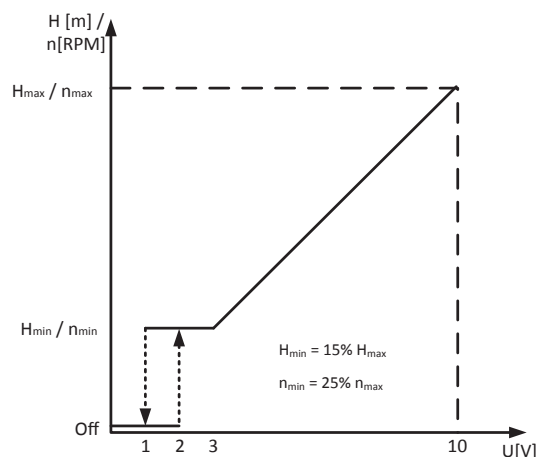

Fig 5
1.2. Sequence of Operation – Fig 5: